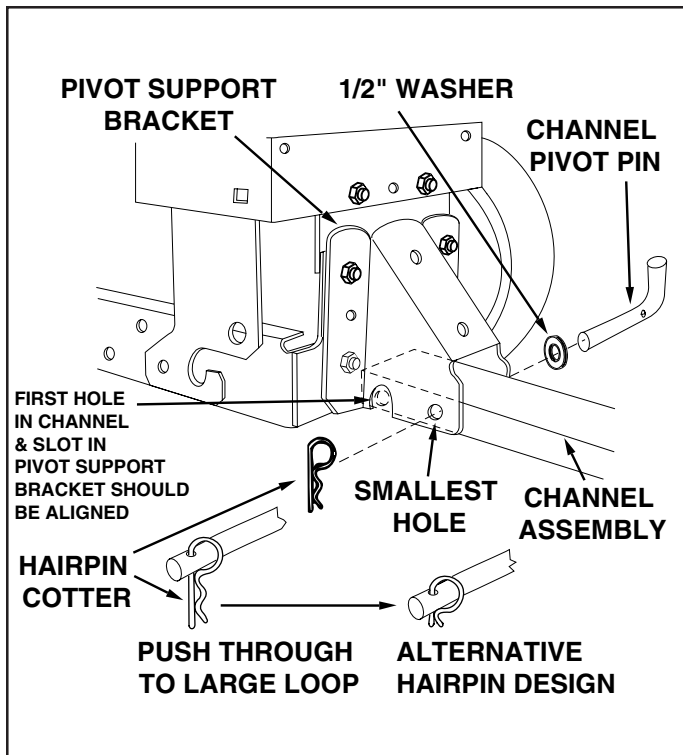
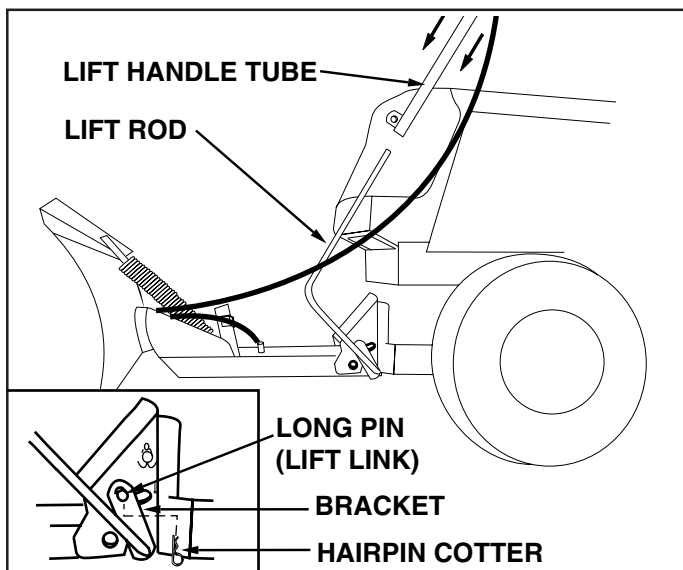
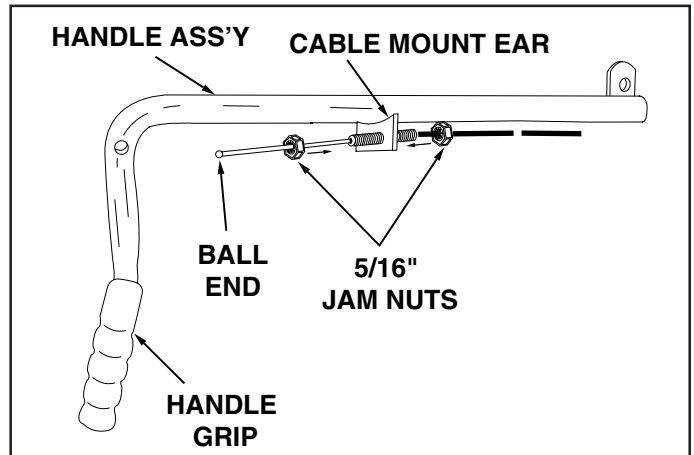

FIGURE 16 (Right Hand Side View)
FIGURE 17 (Left Hand Side View)
FIGURE 18 (Right Hand Side View)
- Place the end of the channel assembly up inside the pivot support bracket. Align the hole second from the end in the channel assembly with the front hole in the pivot support bracket and secure through from the left side with the channel pivot pin, the 1/2" washer and one hairpin cotter. The hairpin cotter should be pushed all the way through to the loop end. See figure 16.
- To assemble lift handle to blade, assure that holes in end of channel assembly are aligned with clearance slots in sides of pivot support bracket as shown in figure 16. From the left side insert the end of the lift rod through the holes in the channel assembly. Next, align the hole in the lift rod bracket with the lift link which was assembled to the pivot support bracket. Secure with a hairpin cotter inserted up through the cross hole in the lift link pin all the way to the loop end of the hair pin cotter. See figure 17.
- Using the furnished grease packet, apply a light coating of grease to the straight upper portion of the lift rod. Slide lift handle tube onto the lift rod. See figure 17.
- To attach loose end of cable to handle assembly, pass cable around outside and underneath handle assembly as shown in figure 17. Mount one 5/16" jam nut approximately 3/4" onto threaded end of control cable. Insert threaded end of cable up through cable mount ear on handle assembly and secure with a second 5/16" jam nut. **Tighten**. See figure 18.